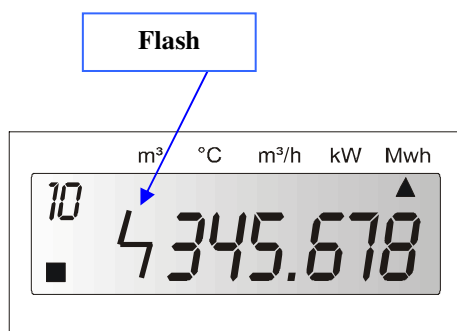

Fig 3.6, Display in test mode, “flash” in display
In the test mode all the calculator parameters can be configured, with the “service program” version 2.0 or higher. Tests can also be performed on the calculator, see verifying the calculator 7.5. A flash on the display will indicate this mode, see fig 3.6.
**Setting calculator into test mode** by using the “test key”, a rubber key with an electric leading head. Hold the “test key” pressed to short circuit the “test button” (at the same time), hold the “Push button” pressed (approximately 1-2 seconds), and then release the “Push button”. The display will show a “flash” indicating “test mode”, (remove the “test key”), see also fig 3.6 (below).